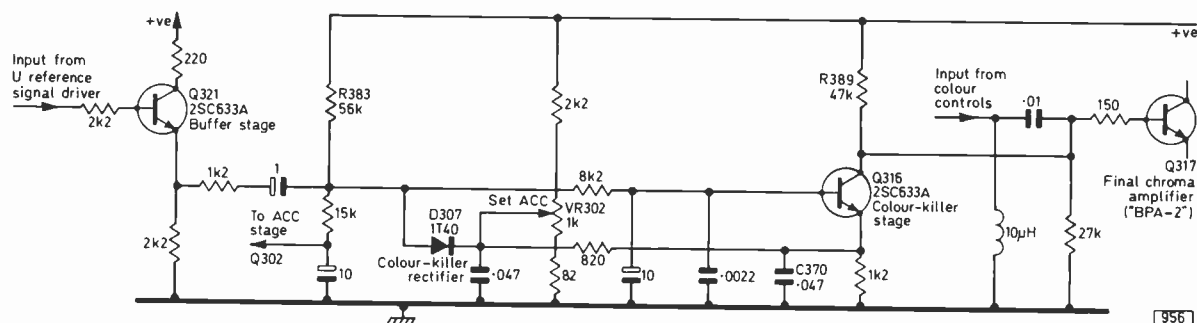

Fig. 1: Colour killer circuit used in the Sony Model KV1320UB (the small screen model).
(1) Failure of fuse F801 (1.6A) for no apparent reason. The fuse is omitted in later models and can in fact be shorted out whenever the trouble is experienced.
(2) Bent verticals, predominantly on the left-hand side. This is caused by the 115V series regulator transistor Q903 (2SC807A) being short-circuit.
(3) No sound or vision, raster OK. Due to the first i.f. transistor Q201 (2SC1129) being short-circuit.
(4) Colour altering. Usually due to misalignment of the ident circuits (adjust on test card unless an expensive colour bar generator is available). The adjustments are T701, VR701 and VR702.
(5) No colour, due to a fault in the colour killer circuit (see Fig. 1). The operation of this circuit is worth noting. In the absence of a colour signal Q316 is biased on by R383; its low collector voltage is insufficient to turn on the final chroma stage Q317. On colour the sinewave signal from the U reference signal driver stage, fed to the colour killer circuit via the buffer stage Q321, is rectified by D307 to produce